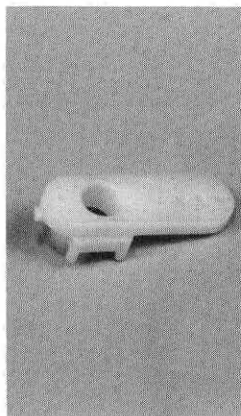

Fig. 20
- ☐ **Fig. 20** Locate the servo saver arm...